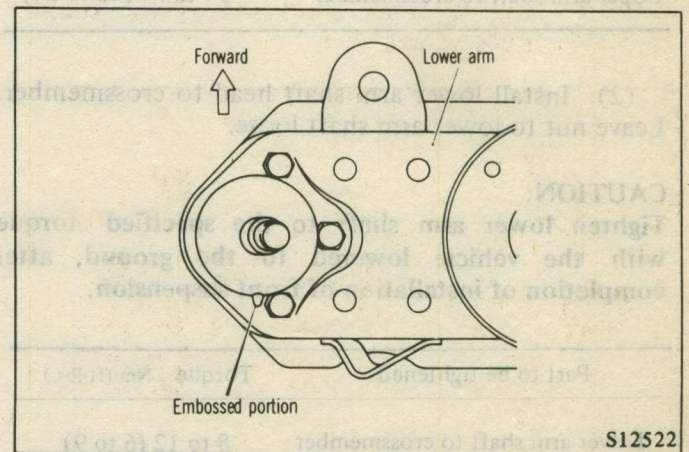

Fig. 28 Installing the Dust Cover
(2) Install dust cover, positioning the embossed portion as shown. (Fig. 28) Install the ring to make with the groove of ball joint case.